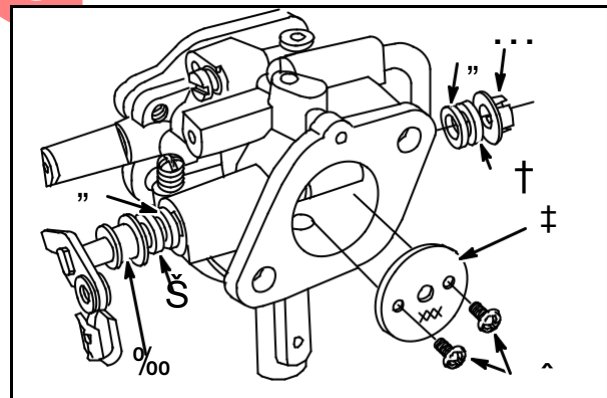

Fig. 52
Install new throttle shaft seals (4) with sealing lip out, **Fig. 52**.